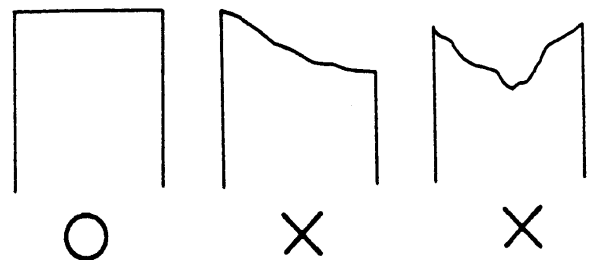

Fig. 2-3. Processing the Paper's Leading Edge
- (2) **The paper's leading edge should be as shown in Fig. 2-3.**